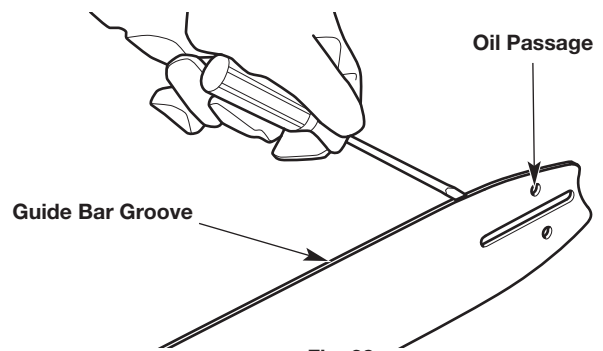
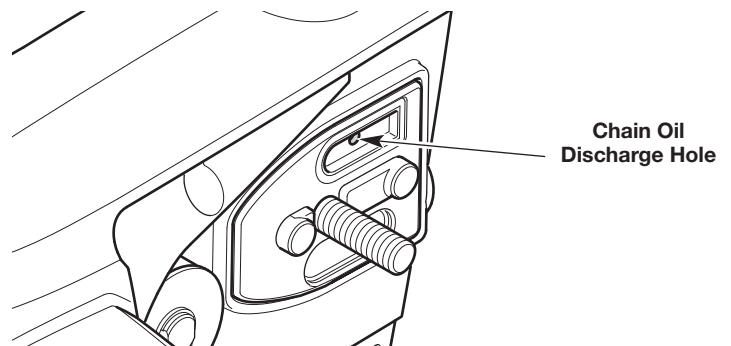

Fig. 28
Fig. 29
2. Clean the guide bar groove and oil passages whenever the saw chain is removed, when the unit has been used heavily or when the saw chain appears dirty. Use a screwdriver, putty knife, wire brush or similar instrument to remove debris from the guide bar groove (Fig. 28). Use a small, soft wire to remove any debris from the chain oil discharge hole (Fig. 29).